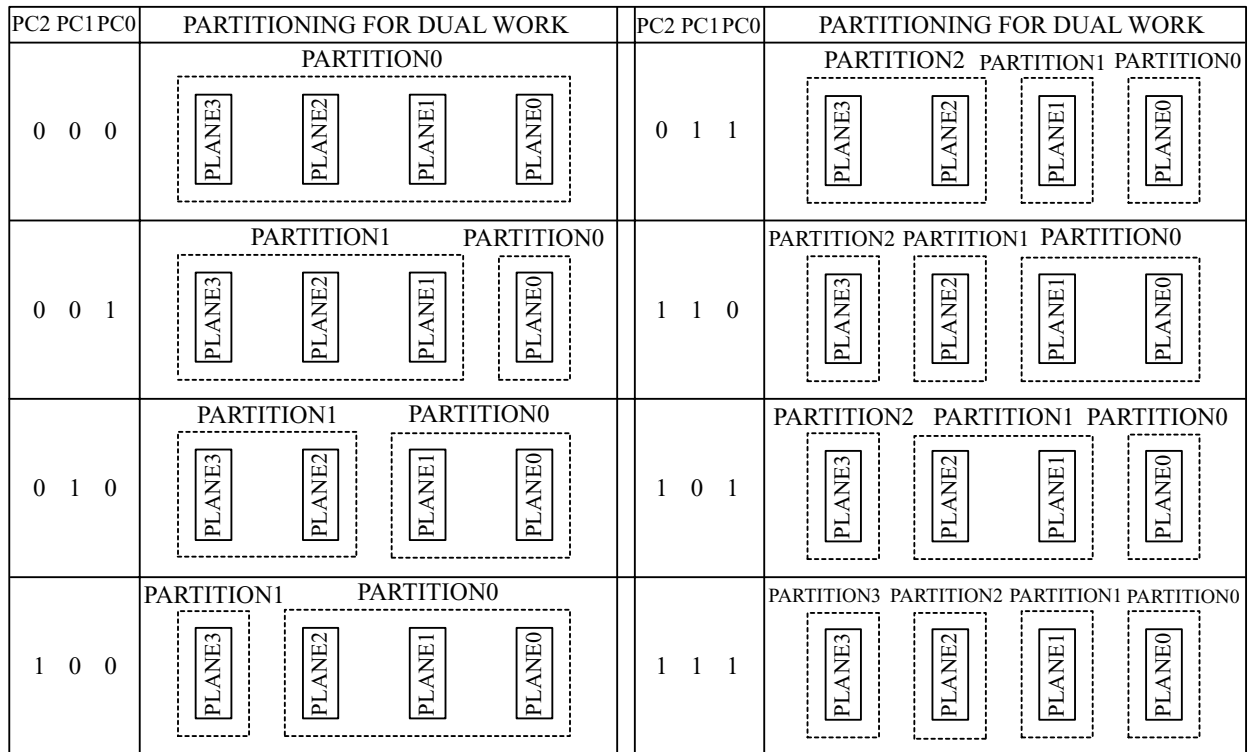

Figure 4. Partition Configuration
<p>PCR.15-11 = RESERVED FOR FUTURE ENHANCEMENTS (R)</p> <p>PCR.10-8 = PARTITION CONFIGURATION (PC2-0)</p> <p>000 = No partitioning. Dual Work is not allowed.</p> <p>001 = Plane1-3 are merged into one partition. (default in Bank 1 selected by BE1#=VIL)</p> <p>010 = Plane 0-1 and Plane2-3 are merged into one partition respectively.</p> <p>100 = Plane 0-2 are merged into one partition. (default in Bank 0 selected by BE0#=VIL)</p> <p>011 = Plane 2-3 are merged into one partition. There are three partitions in this configuration. Dual work operation is available between any two partitions.</p> <p>110 = Plane 0-1 are merged into one partition. There are three partitions in this configuration. Dual work operation is available between any two partitions.</p> <p>101 = Plane 1-2 are merged into one partition. There are three partitions in this configuration. Dual work operation is available between any two partitions.</p>	<p>111 = There are four partitions in this configuration. Each plane corresponds to each partition respectively. Dual work operation is available between any two partitions.</p> <p>PCR.7-0 = RESERVED FOR FUTURE ENHANCEMENTS (R)</p> <p>NOTES:</p> <p>After power-up or device reset, PCR10-8 (PC2-0) is set to "001" in Bank 1 and "100" in Bank 0.</p> <p>See Figure 4 for the detail on partition configuration.</p> <p>PCR.15-11 and PCR.7-0 are reserved for future use and should be masked out when polling the partition configuration register.</p>